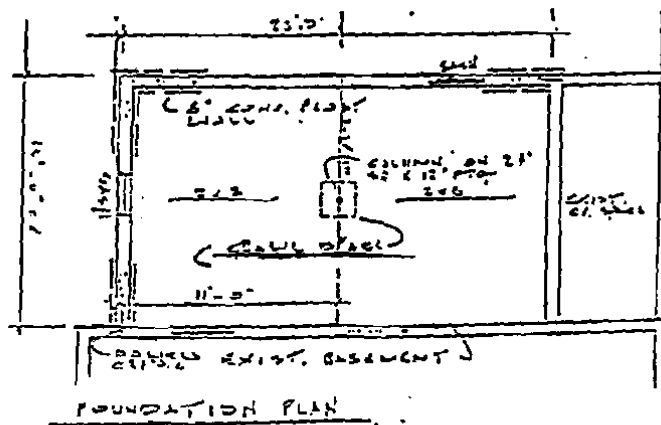

Figure 2. Typical Foundation Plan
- For new construction, structural alterations, or additions, plans showing structural details must be provided. Minimally they should include foundation plans, including drainage and support column spacing framing details, floor plans and a cross section. (See Figures 2; 3 & 4)